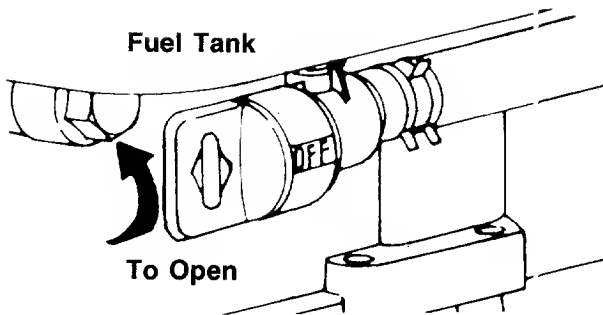

FIGURE 15.—Models 286R and 289R
2. Models 286R and 289R only: Open fuel shut-off valve. See figure 15.